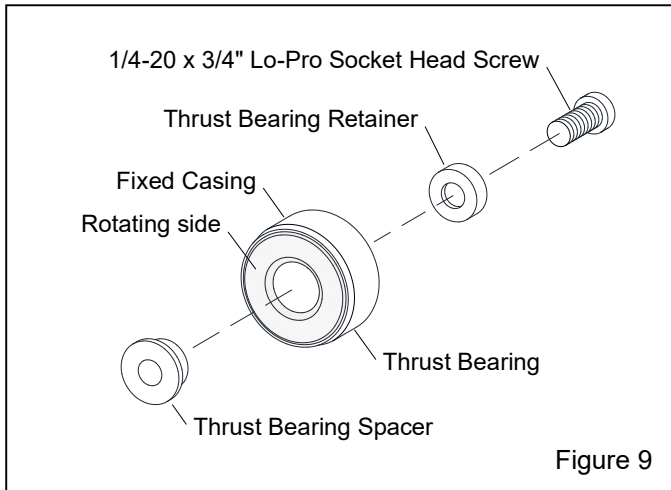

Figure 9
6. Assemble the thrust bearing as shown in Figure 9. Insert the small end of the spacer into the rotating side of the bearing. The retainer is on the fixed housing-side of the bearing and the recessed side faces toward the socket head screw.